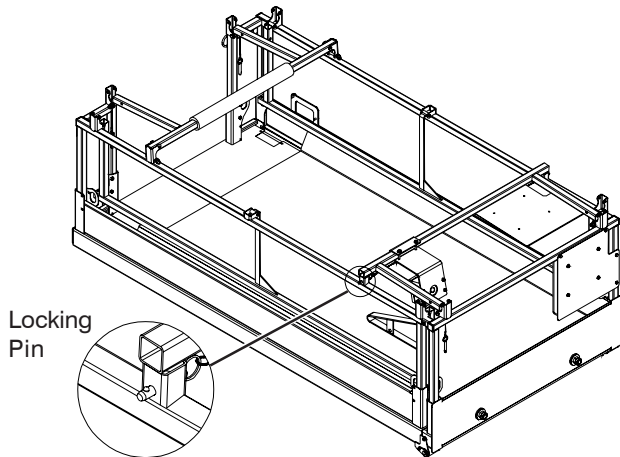

Figure 2-12b. All Guardrails Folded Down
4. Lock in place on the mounting post using the locking pin (refer to Figure 2-12b). Ensure that the detent ball of the pin is all the way through.
3. Lock each guardrail in place with the locking pins ensuring that the detent ball of each pin is all the way through. See Figure 2-12b.